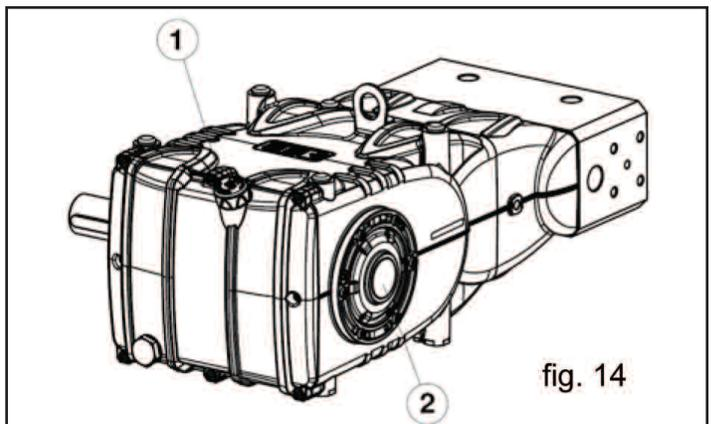

fig. 14
5. The oil level in the pump must be verified using the correct dipsticks (position 1, fig 14), and especially using the oil sight glass (position 2, fig. 14).